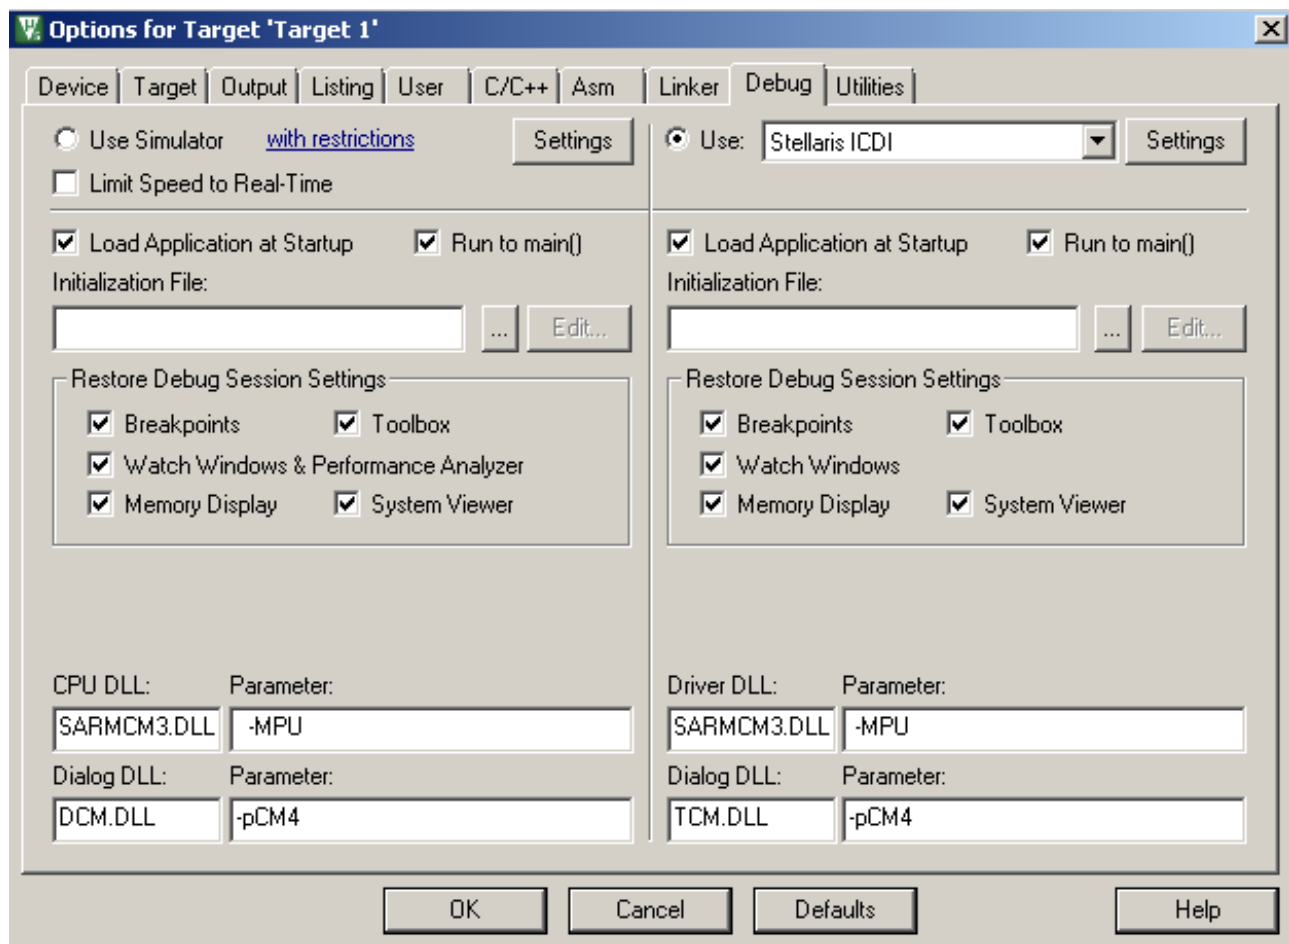

Figure 1.4 – Simulator versus Debugger on the Tiva board [5]
- 7 To set the correct debugger right-click on the **TARGET 1** and choose the **Options for Target 'Target 1'** and then click on the **Debug** tab. Choose **Stellaris ICDI** on the right pane, you will need the Tiva board connected to the computer you are working on the debugger window should look like Figure 1.4
- 2 Right-click on the **TARGET 1** and choose the **Options for Target ‘Target 1’** and then click on the **Debug** tab. You should see Figure 1.4